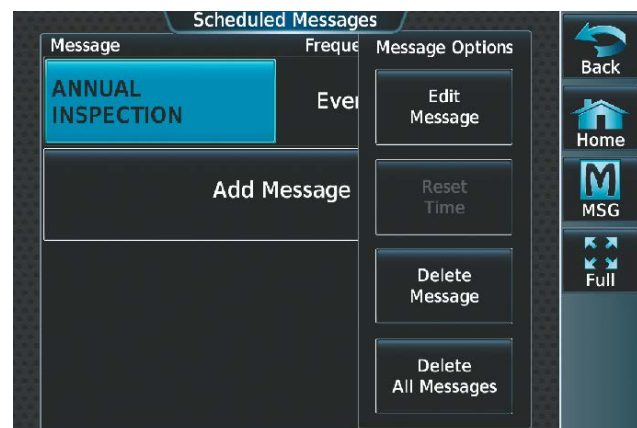

Figure 8-109 Select Edit Option
- 2) Touch the name of the message to be deleted. The Message Options Window is displayed as in Figure 8-109.